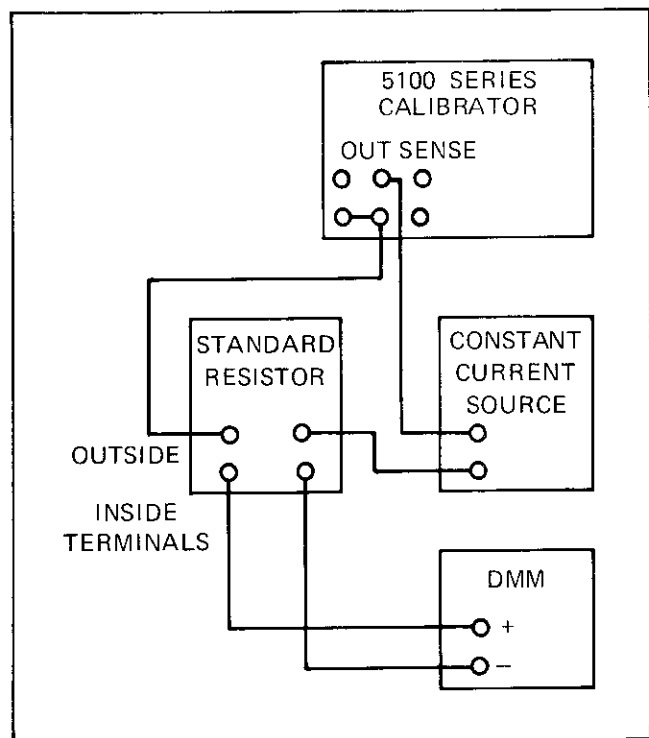

Figure 4-9. Current Source Transfer Connections
1. Connect the equipment as shown in Figure 4-9.